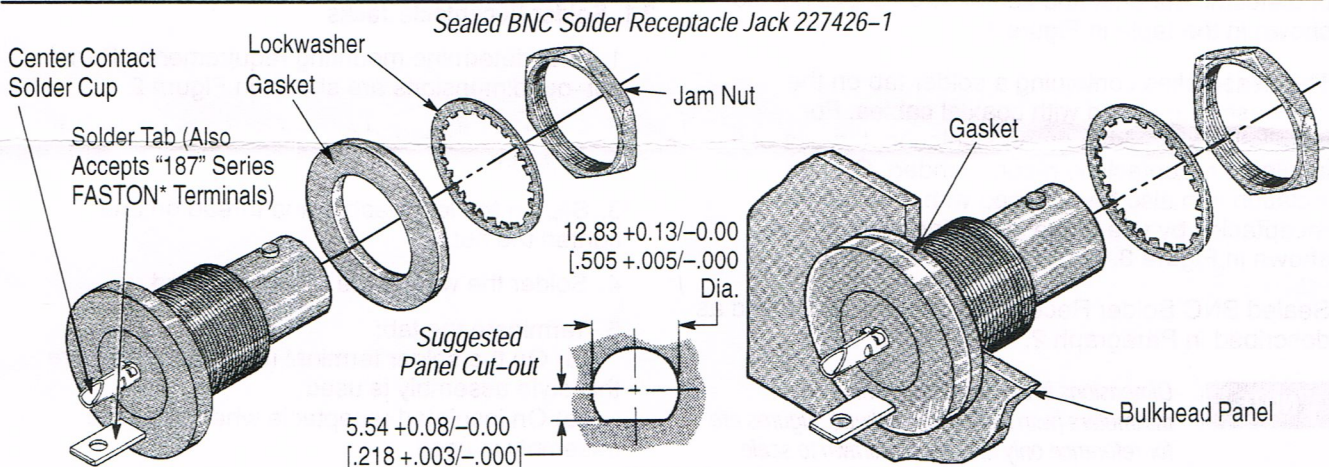

Figure 4
Sealed BNC Solder Receptacle Jacks are installed as described in Paragraph 2.1 and Figure 4.
1. First determine mounting requirements and panel cut-out dimensions as shown in Figure 4.